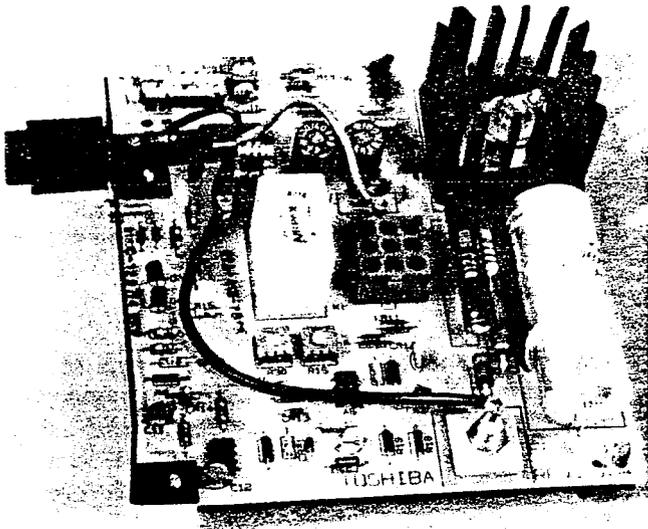

FIGURE 7—PBPU PCB
02.01 The power battery back-up unit (PBBU) in Figure 7 is an optional PCB which may be installed in the EPSA-104 to interface with two auxiliary 12 VDC batteries. In the event of an electrical power failure, the PBBU provides an automatic battery power source, permitting a typical STRATA system to continue normal operations for some time (in direct ratio with the type and size of the batteries chosen).
- The "Battery Override" switch (Figures 7 and 8) is placed in the ON position, or